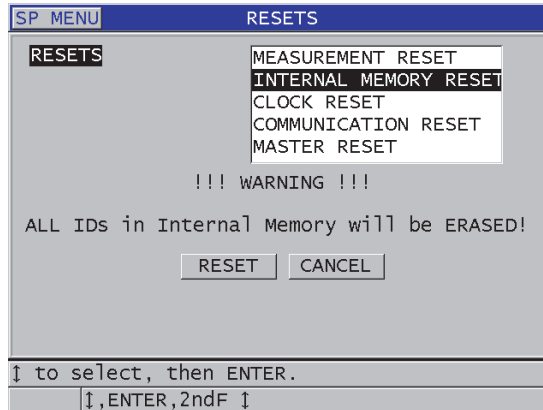

Figure 11-22 Warning message when resetting measurements
3. In the **RESETS** screen (see Figure 11-22 on page 209):